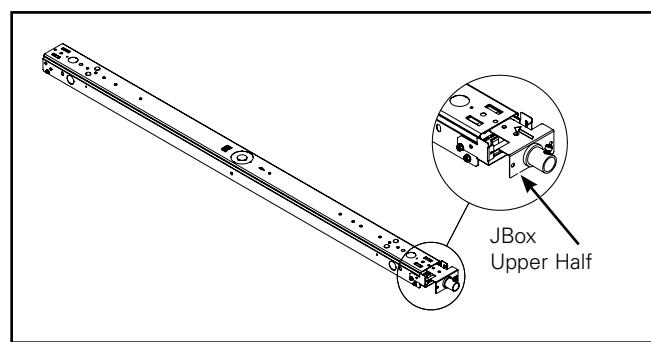

Figure 5.
5. Slide in Junction box upper half to channel. (Figure 5.)